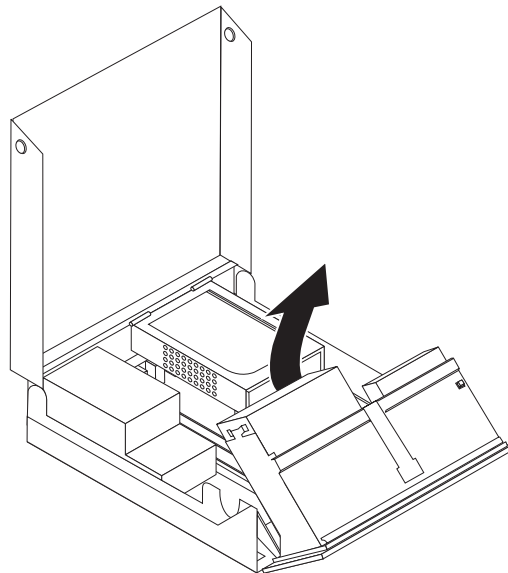

Figure 27. Accessing the diskette drive
2. Pivot the drive-bay assembly upward to gain access to the diskette drive. See Figure 27.